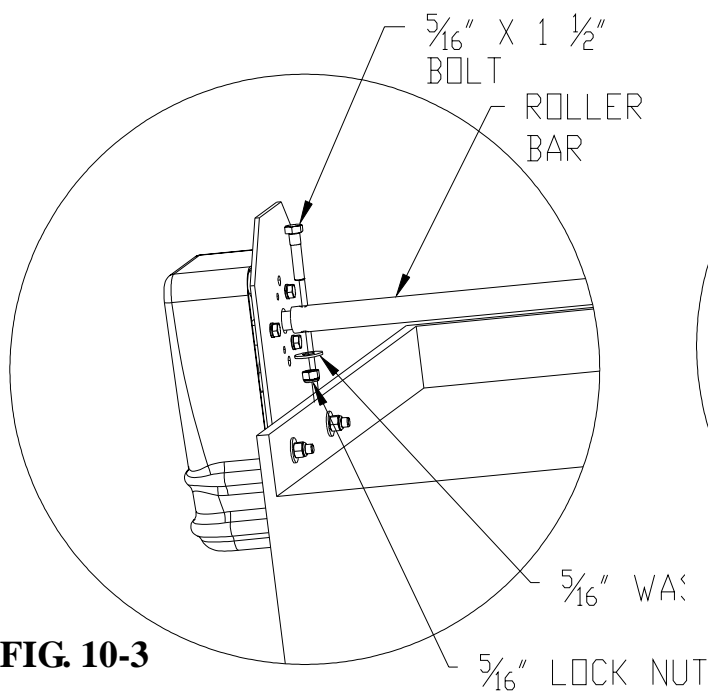

FIG. 10-3
5. Slide rollerbar over the DD motor output shaft and secure with a 5/16" bolt, washer, and nut. See figure 10-3.